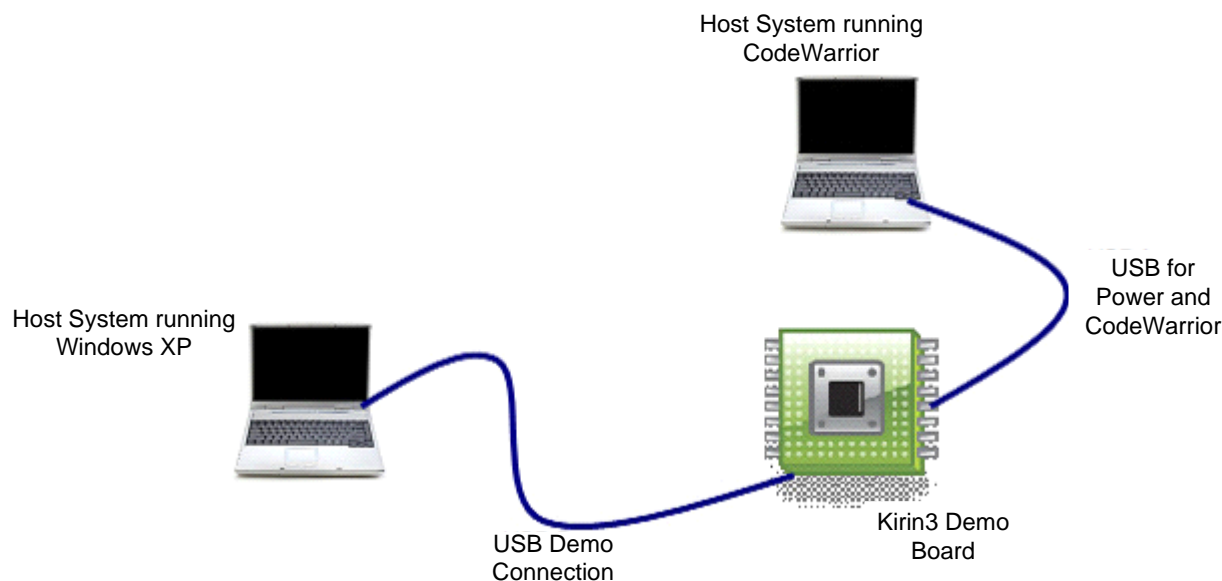

Figure A-1. Hardware setup
- Make the connections as shown in Figure A-1. Here is hardware setup for MCF52259 Demo board which is used as an example.
Although, we have used two personal computers in Figure A-1, in reality you may achieve the same result by a single personal computer with two or more USB ports.